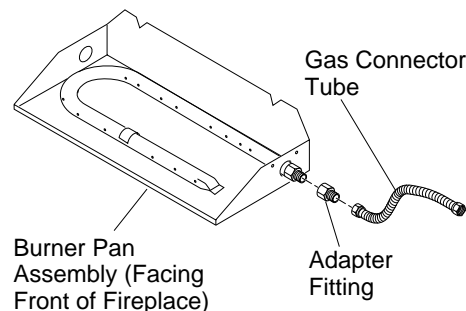

Figure 10 - Connecting Gas to Appliance
3. Install adapter fitting onto the burner inlet fitting using thread sealant on male threads of burner inlet fitting (see Figure 10).